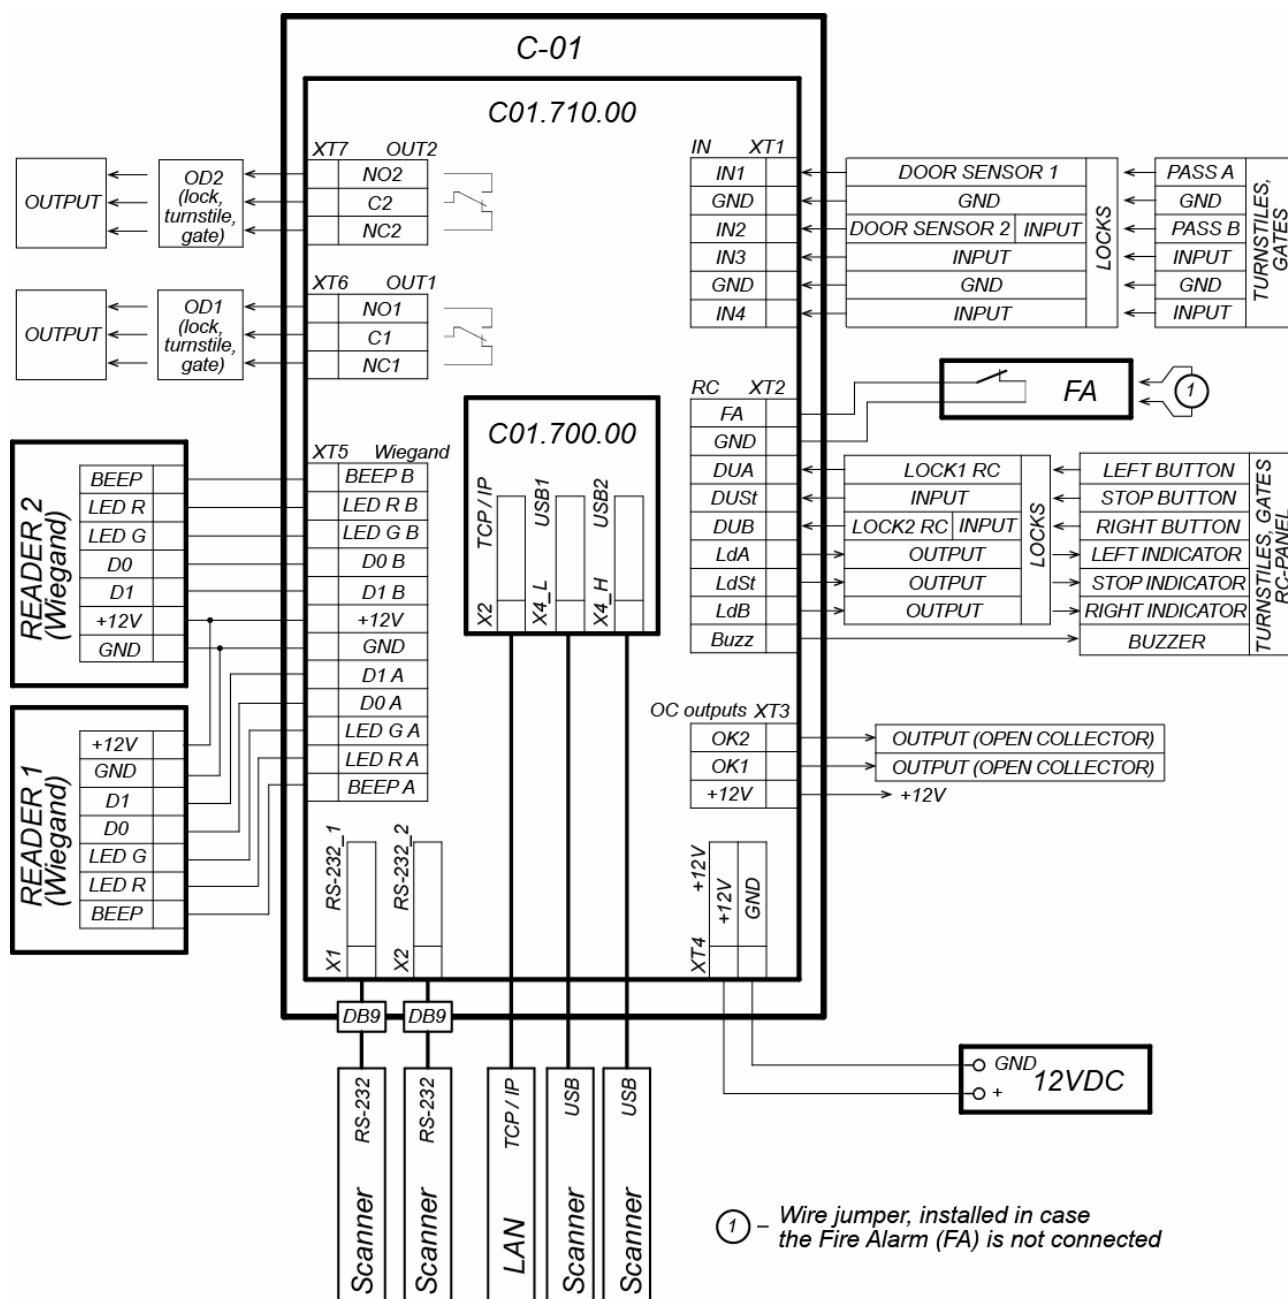
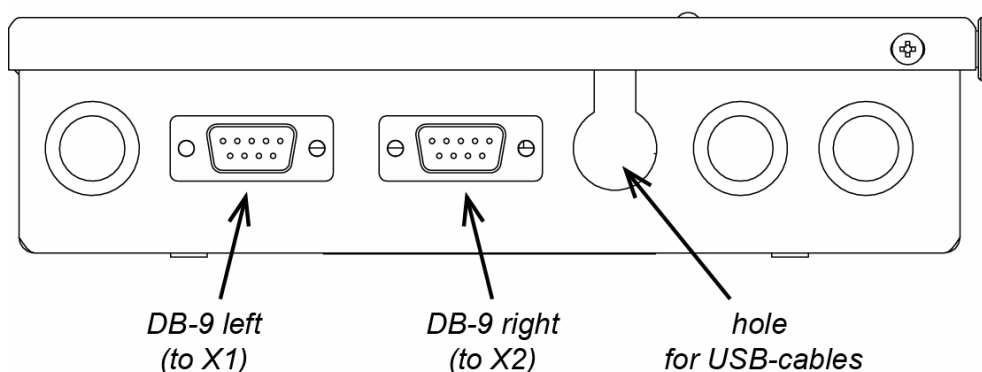

Figure 4. Common scheme of connections
Figure 5. Location of DB-9 (RS-232) connectors on the housing
The controller is equipped with four relay outputs *OUT1*, *OUT2*. Connection to the outputs is performed via **XT6**, **XT7** connecting blocks of the controller bottom board. Every output has a complex group of contacts: normally open *NO*, normally closed *NC* and common output *C*. Outputs may be used for (Figure 4):
The controller is equipped with two outputs "open collector": *OK1* and *OK2* (Figure 4). Connection to the outputs is carried out via **XT3** connecting block of the controller bottom board.
Outputs can be used (Figure 4):
Connection to the controller is performed in accordance with scheme shown on Figures 4 – 16 with the use of cables from Table 2. The position of connecting blocks on the controller's board is presented on Figure 2.
7. Connect PS, connect cable from PS **XT4** connecting block of the controller in accordance with the scheme, shown on Figure 4.
Readers should be connected correspondingly to the contacts of **XT5** connector in accordance with general connection scheme (Figure 4). It is necessary to select *Wiegand* value for «Communication interface» parameter (see Figure 6).
Scanners should be connected correspondingly to the contacts of DB9 (RS-232) connector that is located on the housing of the controller (see Figure 5). DB9 left connector should be connected to **X1** connector located on the bottom board of the controller, right connector – to **X2** connector (see Figure 4).
Connect scanners via *USB* interface by using **X4** connector located on the controller top board (USB double-sided connector: USB1 is located at the bottom, USB2 – at the top, see Figure 1). Use profiled hole for cabling into controller housing (see Figure 5).
2. Connect the lock (the latch) to **XT6** or **XT7** connecting blocks on the lower board of the controller is made in accordance with scheme (Figure 4).